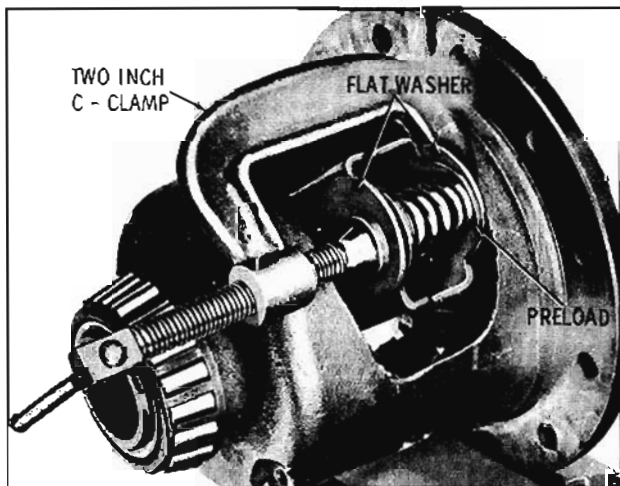

Fig. 10-43 Compressing Pre-Load Springs
9. Compress the pre-load springs as shown in Fig. 10-43 and drive the pre-load retainer and springs between the side gears.